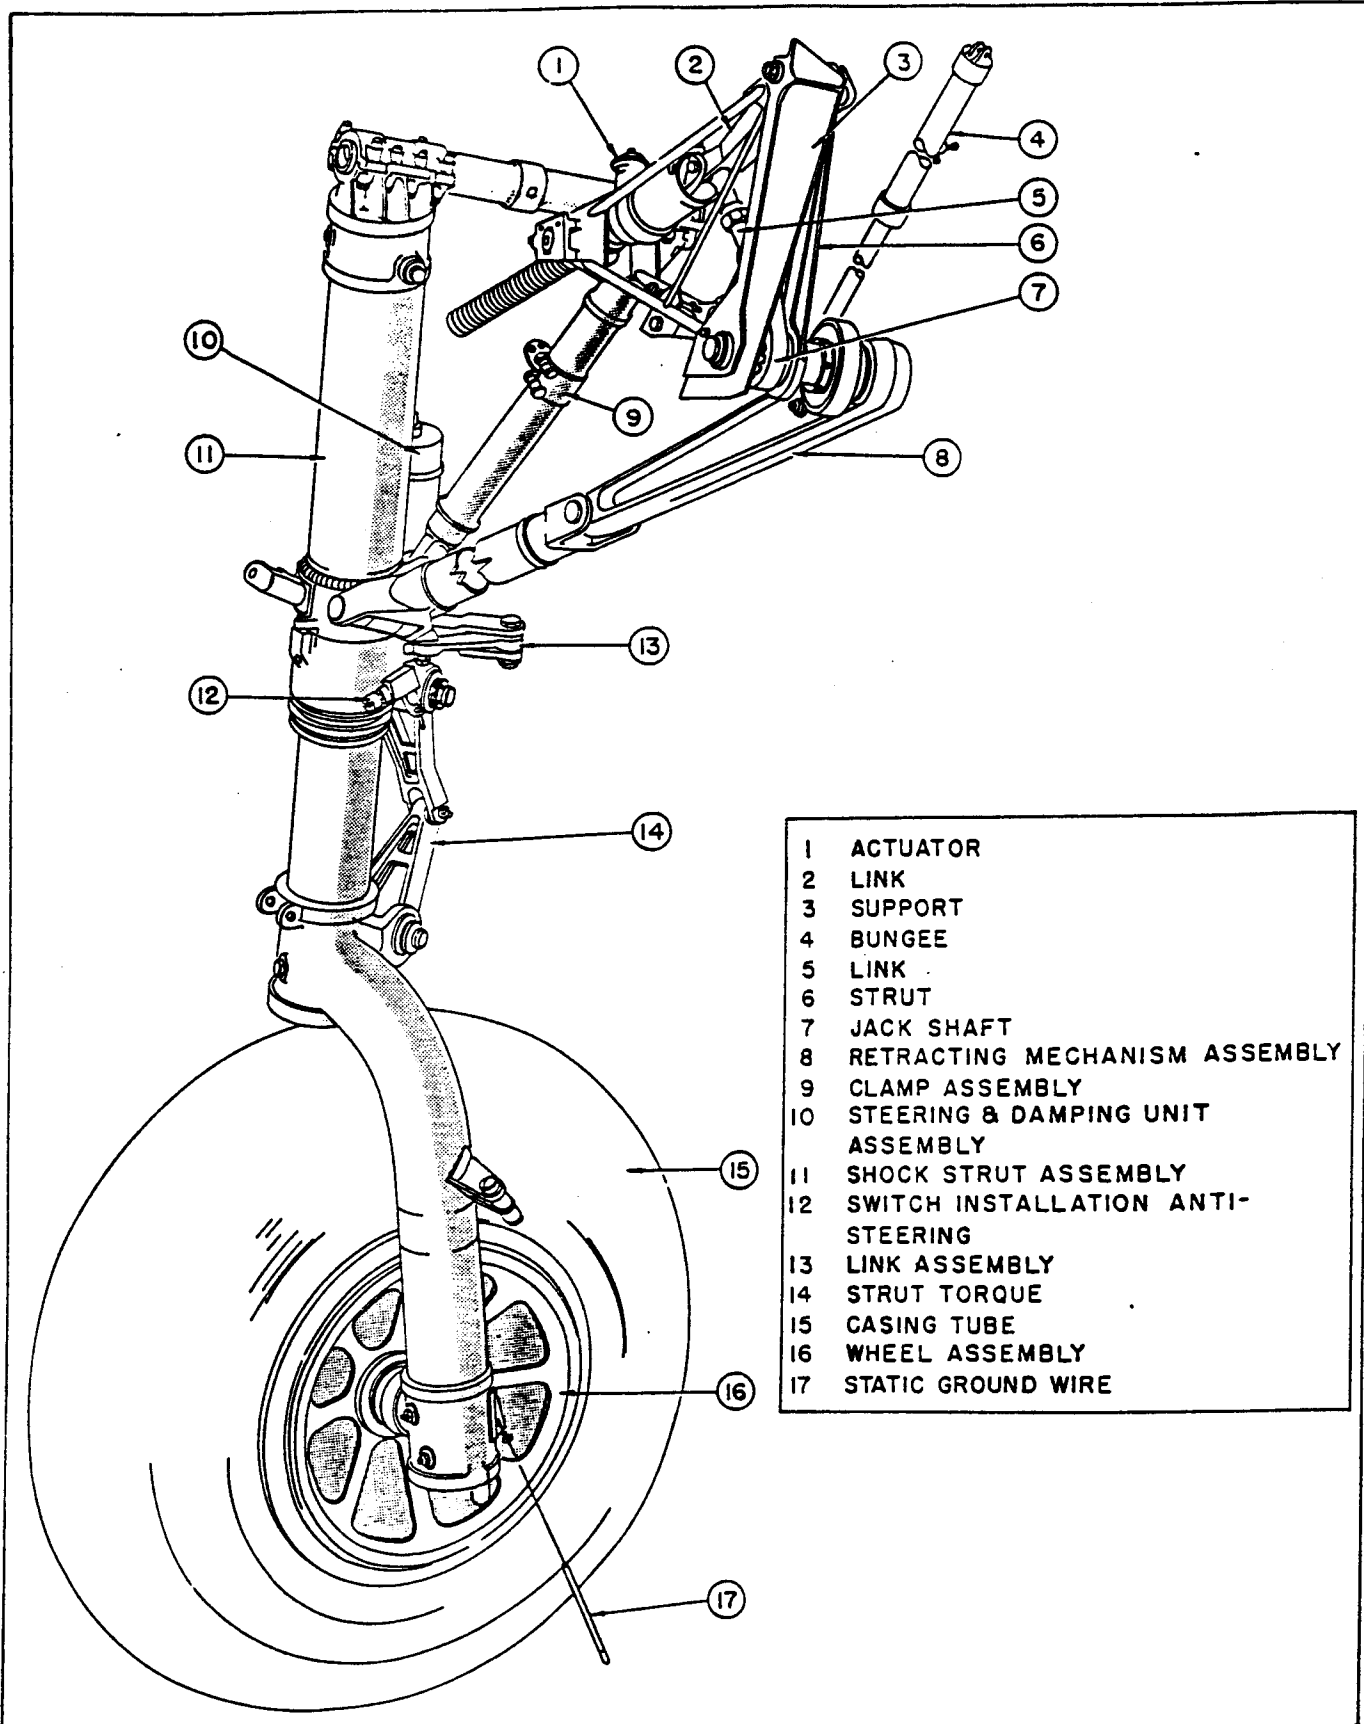

Figure 15. Nose Landing Gear Assembly
(f) MAIN-LANDING-GEAR FORWARD DOORS ACTUATOR. (See figure 15.)
d. NOSE LANDING GEAR. (See figure 15.)
(1) GENERAL.